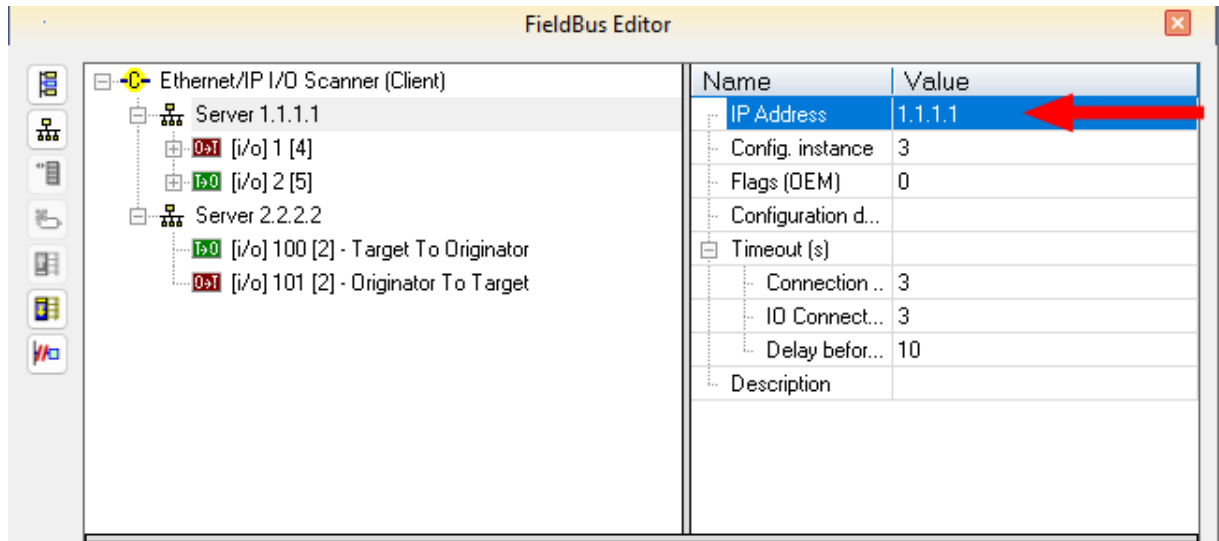

Figure 4-7: Alias IP address
- d. Under the Server nodes, update the IP address to match the alias values from the XML file. (Figure 4-7)